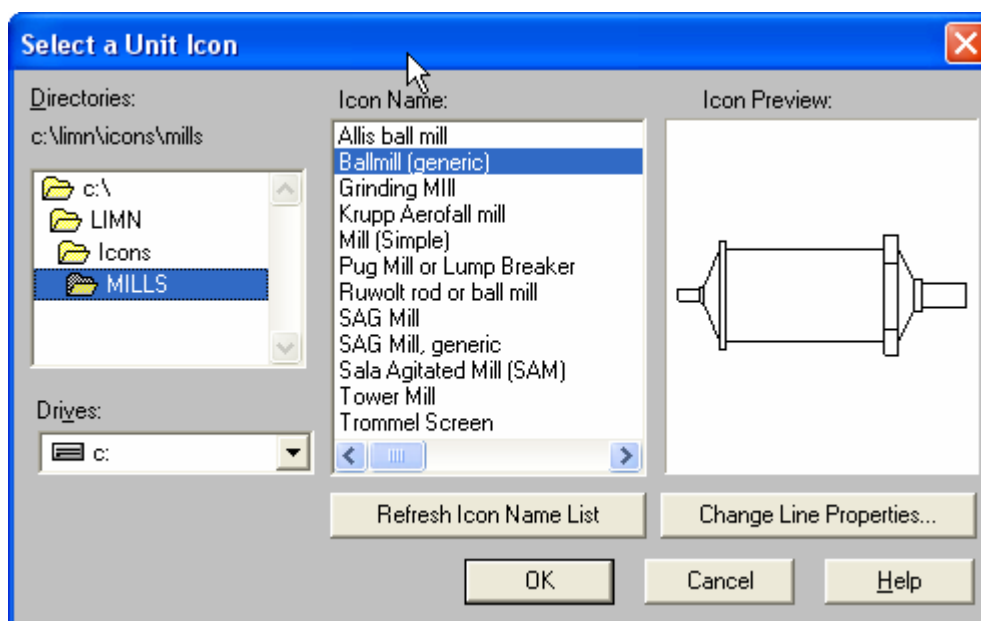

Figure 3: Icon list
- 2.2.3 The icons can be found by searching through the Icons lists, see figure 3 below.